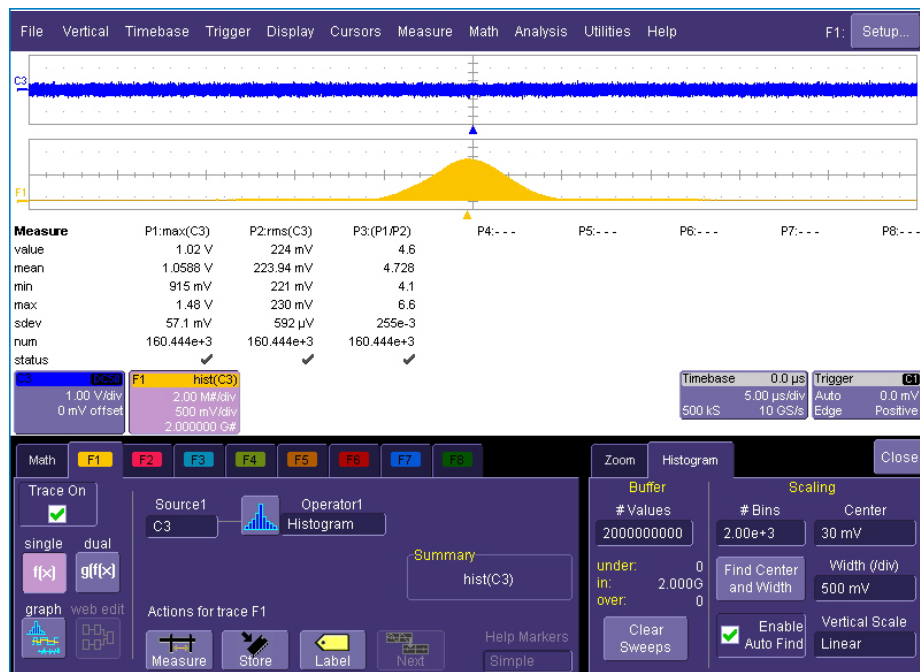

Figure 4
10. Set "Buffer" value to max (2 billion) and " # Bins" to max (2.00e+3) (see Figure 4).